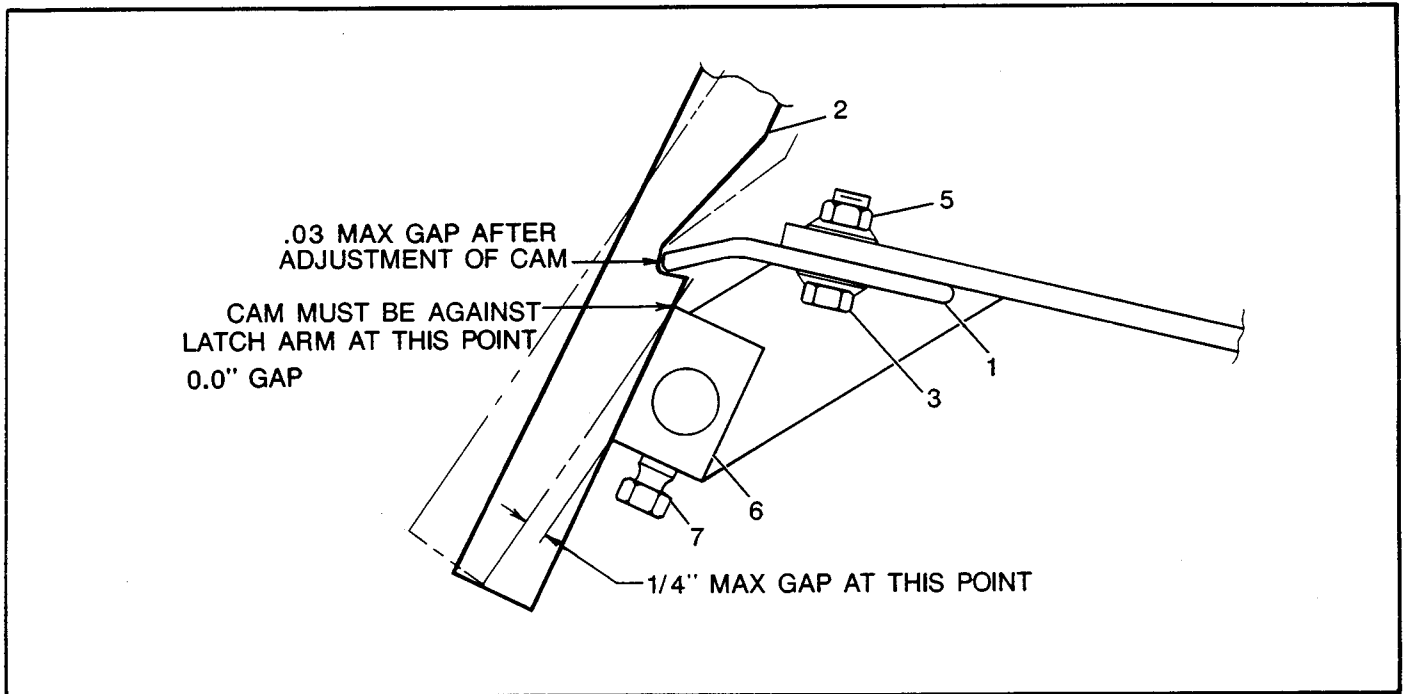
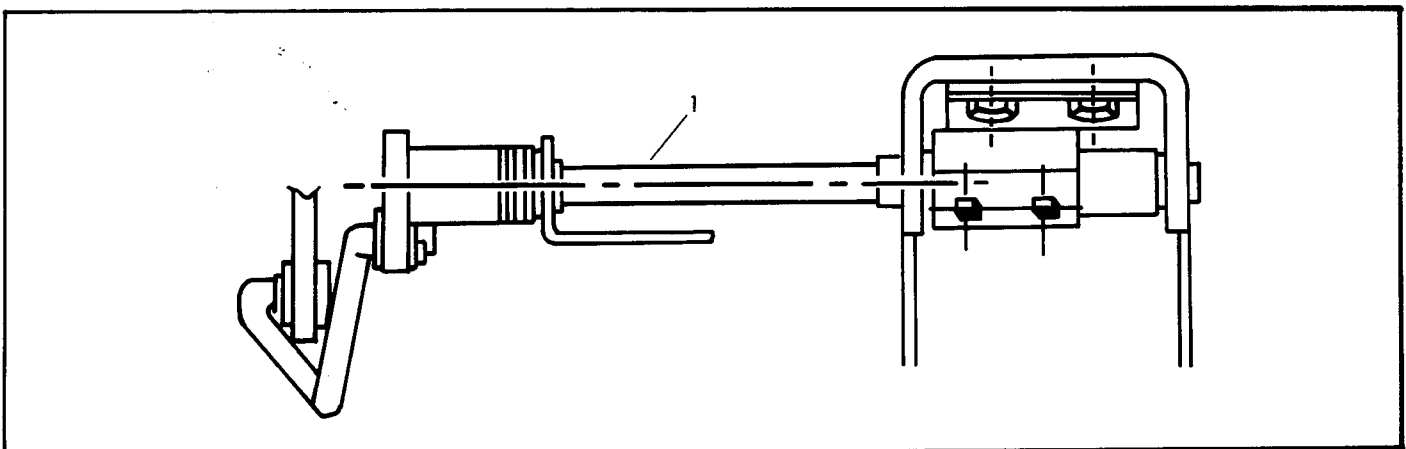

FIG. G-10 CATCH BRACKET ADJUSTMENT
FIG. G-11 PIVOT ARM ASSEMBLY
## HILL BRAKE ADJUSTMENT (Fig. G-10)
- a. Inspect the catch bracket (1) and latch arm (2) for any damage or wear.
2. Roll the floormat back from the brake area to provide access to the 1/4" catch bracket mounting nuts (5).
3. Using a 7/16" wrench, remove the 1/4" x 3/4" long bolts (3), lock washers (4), and the nuts (5) which retain the catch bracket (1) to the brake bracket.
- d. Check the cam (6) for proper adjustment. When the latch arm is engaging the catch bracket, there must **NOT** be any gap between the top of the cam and the latch arm (see Fig. G-10).
2. Loosen the two cam setscrews (7).
3. Rotate the pivot arm assembly (1, Fig. G-11) upward (clockwise when viewed from the driver's side of the vehicle) to remove the free play in the linkage.